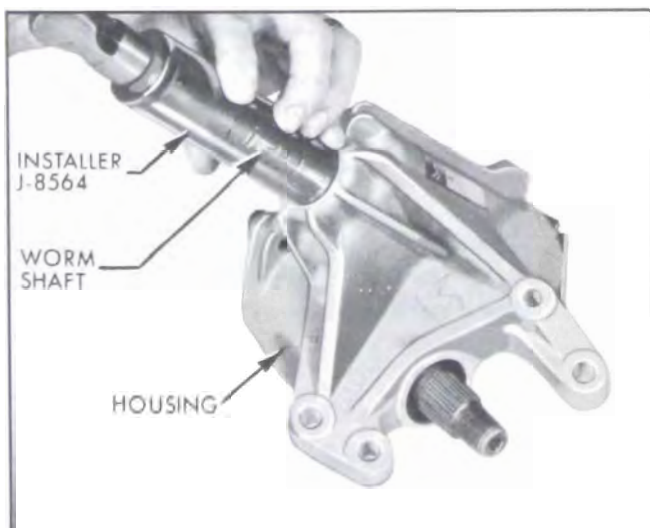

Figure 8-21—Installing Worm Shaft Seal
It is not necessary to disassemble gear to replace worm shaft seal. Remove worm seal with awl being careful not to damage housing or shaft and install a new seal with Installer J-8564. See Figure 8-21.
9. Install new worm shaft seal using Installer J-8564. See Figure 8-21. Drive seal flush with surface of housing.